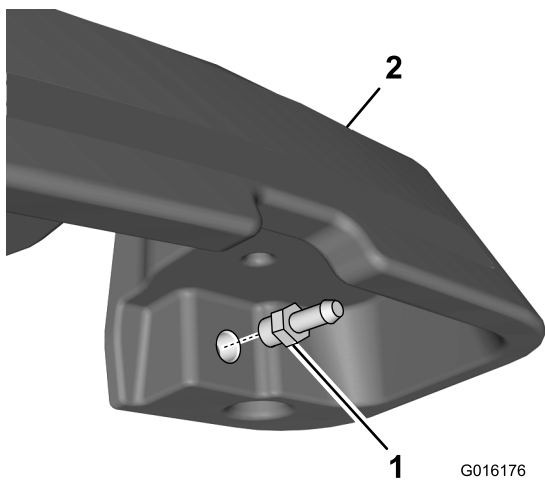

Figure 8
- Install the straight hydraulic fitting into the opening on the underside of the leak detector tank (Figure 8).